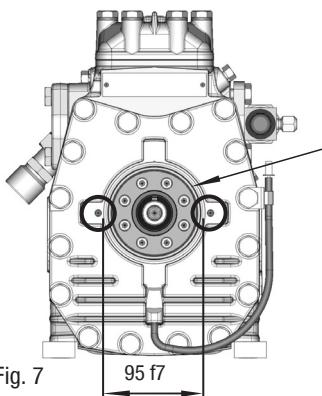

Fig. 7
- To absorb the magnetic field of the electromagnetic clutch, the front bearing flange has a snug fit Ø 95 f7 (see Fig. 7).